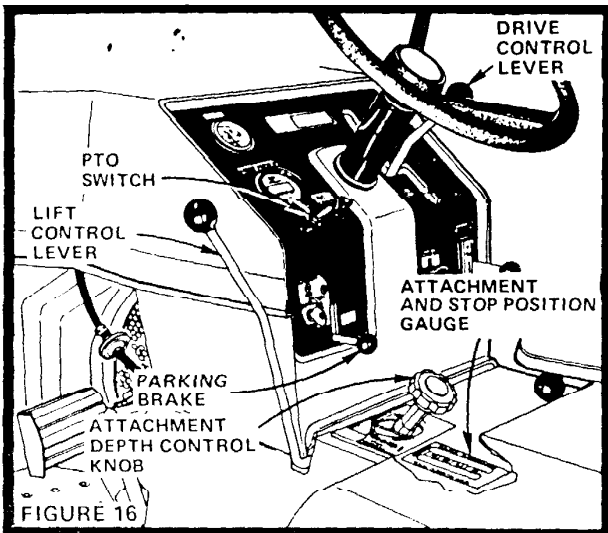

FIGURE 16
- a. Return Drive Control Lever to Neutral (Fig. 16).
- b. Set parking brake (Fig. 16).
- c. Place PTO Switch in "OFF" Position (Fig. 16).
2. START MOWING WITH DRIVE CONTROL LEVER IN LOW AND INCREASE SPEED AS CONDITIONS WILL PERMIT. Average cutting height is approximately 2 - 1/2 to 2 - 3/4 inches. The Lift Control Leve. (Fig. 16) raises mower by moving Lever rearwards. Moving the Lever forward lowers the mower. Height of cut can be adjusted by means of the Attachment Depth Control Knob (Fig. 16). The Indicator on the Attachment and Stop Position Gauge will show position at which grass is being cut (Fig. 16).
It is not necessary to remove mower from tractor for blade replacement. Moving mower Lift Control Lever (Fig. 16) rearward to highest position will permit access to blades.
4. Lower Mower by means of Lift Control Lever (Fig. 16) to its extreme low (forward) position.